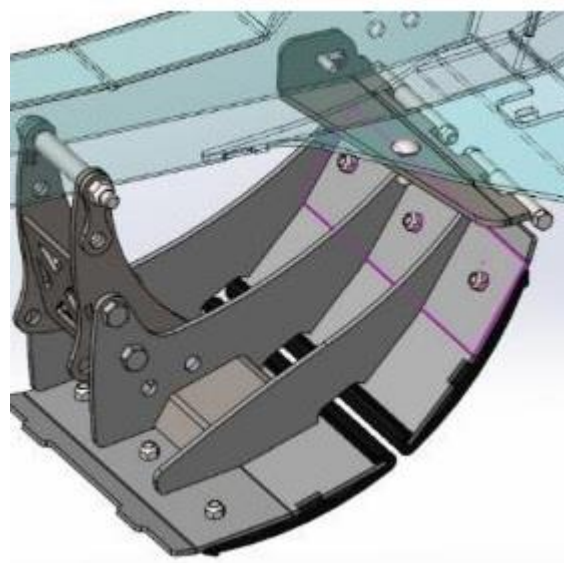

Figure 301
4. If the skid shoe on the drive paddle needs to be removed it can be done in a similar manner. The only difference is the skid shoe is wider. Figure 301